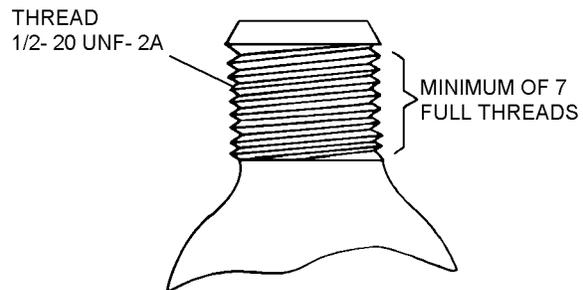

Figure 6-7. Cylinder Thread Count
4. To assure a firm cylinder seat, conduct a cylinder thread count. Threaded portion of cylinder neck shall contain a minimum of seven full threads to assure a firm cylinder seat within valve body. Any cylinder found with less than seven full threads shall be discarded. (See figure 6-7.)